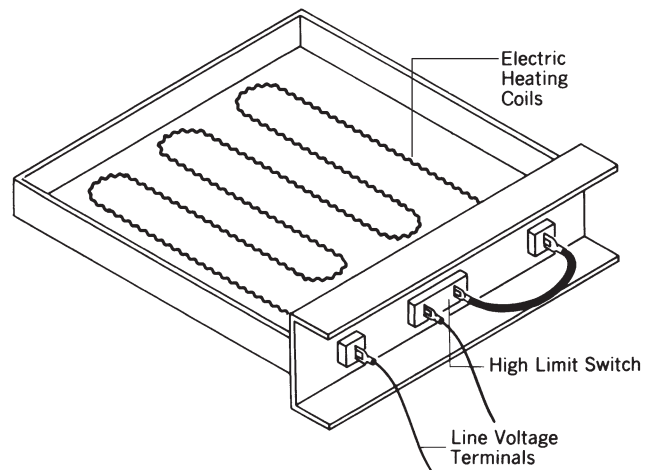

FIGURE 25–1 Electric heating element.
Figure 25–1 shows the heating element. It is a long spiral-wound wire, supported by insulators. It is made of a nickel and chromium alloy commonly called **Nichrome**. A furnace will use several of these elements, each drawing between 3 and 8 kilowatts. The furnace control panel will have a 20- to 40-amperes cartridge fuse on each leg of each heater. Therefore, an electric furnace with three heating elements would have six cartridge fuses.
With the two-stage thermostat (Figure 25–3), the thermostat switch feeding W1 closes at a temperature two to three degrees higher than W2. If the selected temperature is well above the room temperature, both relays will energize. As the room heats and approaches the selected temperature, W2 will open, and heat relay 2 will de-energize. If the room temperature can be maintained with heat element 1 alone, it will do so. If not, the temperature will drop two to three degrees below the selected temperature, and W2 will close energizing heat relay 2, putting heat element 2 back into the system.
In Figure 25–4, a single-stage thermostat is used to control two heating elements. Control is obtained through the heat sequencer. The sequencer consists of a heating element controlling two sets of contacts. The contacts close at two different temperatures so there is a time delay between the closing of contacts set A and contacts set B.
Another method of operating the blower on an electric heat system is by using a switch that senses when current is flowing through the electric heating element (Figure 25–5). The wiring to the element is passed through the current-sensing loop of the blower control. Whenever the element is energized, the current-sensing loop will cause a set of normally open contacts in the control to close, energizing the fan motor.
When connected in an alternating current (AC) circuit, the SCR acts as a rectifier, and its output is direct current (DC). The symbol for an SCR is shown in Figure 25–7. When the current flowing through the gate is high enough (as modulated by a temperature-sensing device), it will turn the SCR on, allowing current to flow through the anode-cathode path and through an electric heating element. Figure 25–8 shows how the first portion of the AC waveform is “chopped off,” because the rising voltage is not high enough to cause the gate to open the current flow to the heater. When the voltage gets high enough to cause the turn-on current to flow through the gate, the remaining portion of the waveform is allowed to flow through the heater. When the downside of the applied voltage waveform signal drops to zero, the SCR turns off again, until the turn-on current is reached once again. By adjusting the turn-on current setting, the amount of the waveform that can be allowed to pass through the heater can be adjusted. By connecting two SCRs in tandem, one for each direction of current flow, it becomes easy to control AC current flow. Each half-cycle is “chopped” at low-power settings, and the full AC sine wave can be passed through when full power is required.
1. Referring to Figure 25–3, what might you expect as a customer complaint if the coil of heat relay 1 were to open?
2. Referring to Figure 25–4, what would you expect as a customer complaint if the heat sequence A contacts failed to close while the B contacts operated normally?
3. With reference to Figure 25–2, the fan motor is operating. What voltage would you expect to measure from the indoor fan motor (R) to ground?
4. In Figure 25–2, with cool selected what voltage would you expect to measure from the sequencer (M1) to ground?
5. In Figure 25–2, when does the device called out as “Relay” energize?
6. With the two-stage thermostat used in Figure 25–3, what is the temperature differential between the actuation of W1 and W2?
7. In Figure 25–2, what type of motor is the indoor fan motor?
8. In Figure 25–2, what type of motor is the outdoor motor?
9. In Figure 25–2, what type of motor is the compressor motor?
10. Referring to Figure 25–6, if the fuse controlling L2 were to open, how much heat would be developed in the heater elements compared with normal operation?